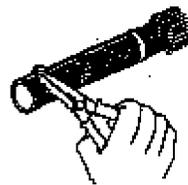

Fig. 3c
- l) With a depth gauge set to 0.4mm cut two parallel  $\pm$ ram lines  $\pm$  5mm apart to the cable end. See Fig.3c.